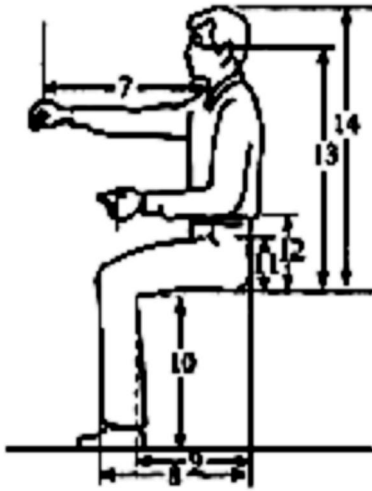

Figure 1
- Q.4 (a)** Name the Anthropometric measures no. 7 to 14 as in figure 1 and explain the significance of any two of them in work place and product design. **07**